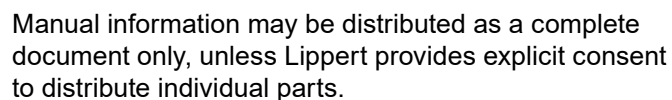

Fig.51
1. Bend the end of a paper clip or use a similar tool that will fit into the reset hole in the LCD display (Fig.51).